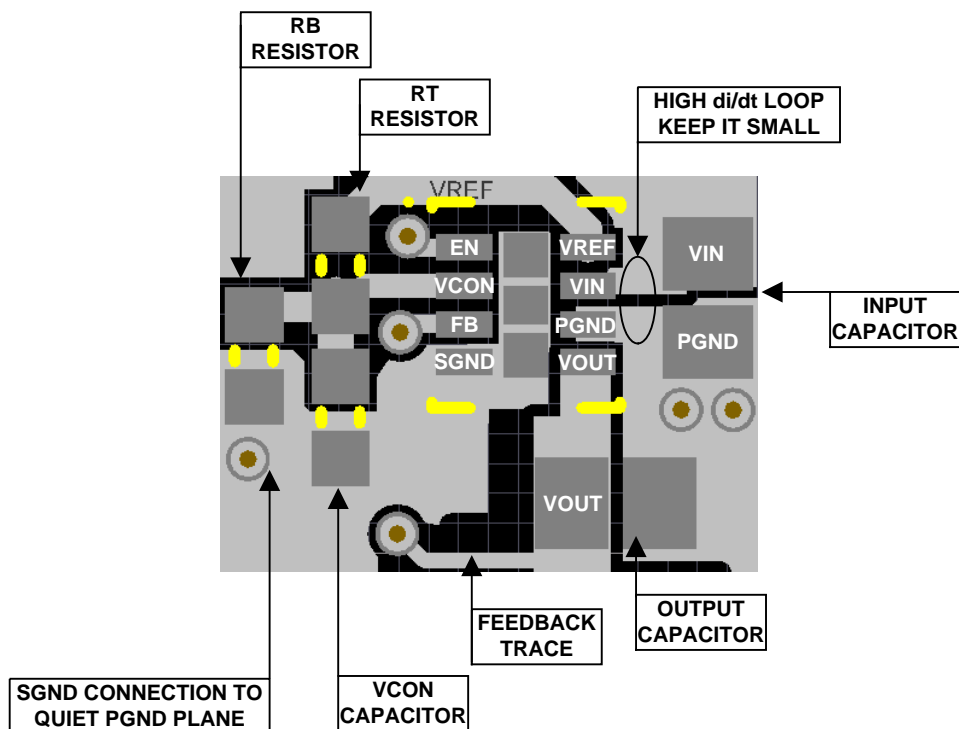

Figure 38. Example Top Layer Board Layout
The LMZ10500 integrates the inductor and simplifies the DC-DC converter board layout. Refer to the example layout in Figure 38. There are a few basic requirements to achieve a good LMZ10500 layout.
2. Place the  $V_{CON}$  filter capacitor  $C_{VC}$  and the  $R_B$   $R_T$  resistive divider as close as possible to the  $V_{CON}$  and SGND terminals. The  $C_{VC}$  capacitor (not  $R_B$ ) should be the component closer to the  $V_{CON}$  pin, as shown in Figure 38. This allows for better bypass of the control voltage set at  $V_{CON}$ .